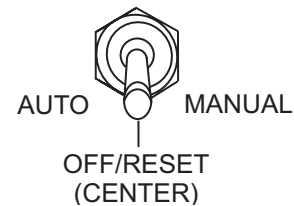

Figure 99. Auto Start/Stop Switch (Off/Reset Position)
- Place the Auto Start/Stop switch (Figure 99) in the "Off/Reset" position.